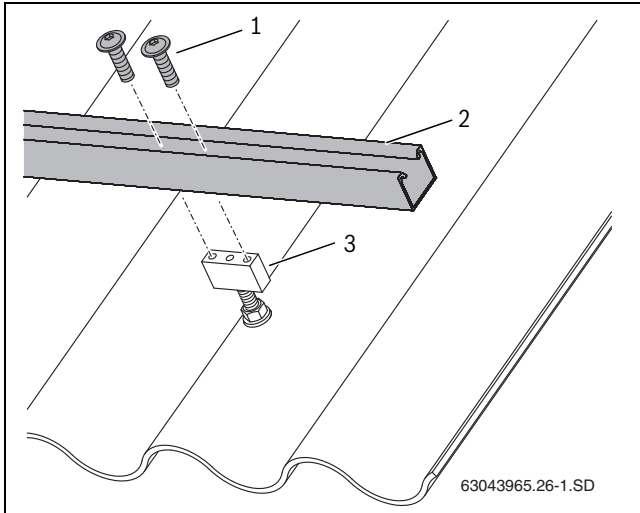

Fig. 24 Fastening the profile rail to the support block
- Secure each profile rail (Fig. 24, [2]) with two screws each (Fig. 24, [1]).